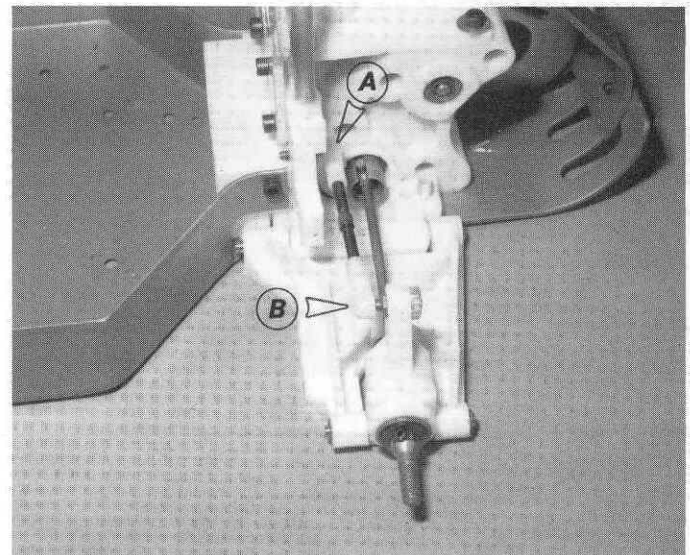

Fig. 116
□ **Fig. 116** Put the strut (A) onto the ball on the bulkhead. Put the spring inside the stub axle, and make sure the spring fits freely in the hole. If the spring binds you may be able to clear the hole with an Allen wrench; or you can reread step 111. Put the dogbone or half-shaft into the gear slot. Now, align the stub axle with the dogbone and slide it in. Put the strut (B) on the ball in the hub carrier. It should look like Fig. 116 now. Do the R.H. side.